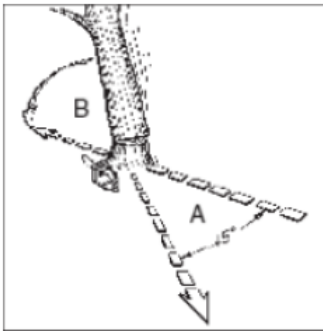

Fig 10a
Warning: Before starting to cut, an escape route (A) must be planned and cleared. The escape route must extend backwards and diagonally, in the opposite direction of the fall, as in Fig. 10a.
WARNING: When the felling cut approaches the hinge, the tree should begin to fall. When the tree begins to fall, remove the saw from the cut, stop the engine, put down the chainsaw and leave the area via the escape route (Fig. 10a).